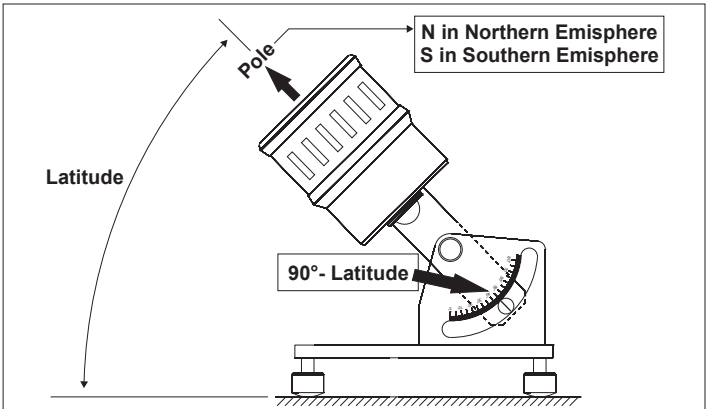

Fig.2 - Support for installation of the sensor on a mast
- 3 - Installation on a vertical Ø 40 mm mast by using the LPSD18.V support. This support allows to tilt the sensor up to 80° respect to the vertical, so to fit it to the position of the sun to the latitude of the place of installation (Fig.2)